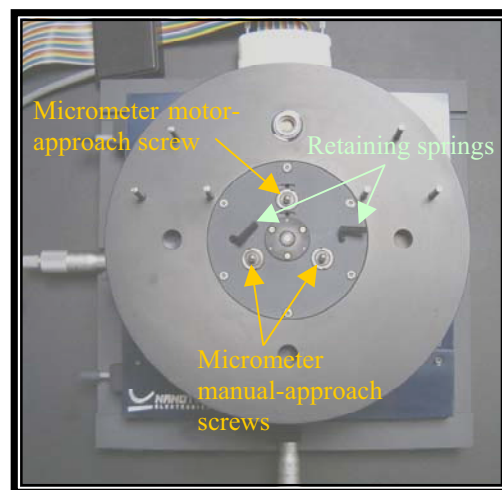

Fig. 4.18
- Turn *Off* the laser (by clicking Off in the Photodiode window) and place the head above the sample (the head fixes to the support screws magnetically unless you are using a MFM). Make sure **not to touch** any head micrometer screws, in order not to change the previous laser tune, and also make sure not to crash the tip. If there is any doubt about crashing, raise even more the support screws before placing the head. Once it is placed, you can fix the head with the two L-shaped parts anchored to the base with springs (Retaining Springs, see Fig.4.18). Three micrometer screws placed in a triangular pattern make the head support, (see Fig. 4.18). The two screws at the front can be moved by hand, while the other is motorized and controlled through WSxM (but it can be also moved by hand, pushing the motor down with one hand and moving the screw with the other. If you move it in this way, after the movement, make sure the motor is well coupled to the micrometer. If not, the motor will not move the micrometer).